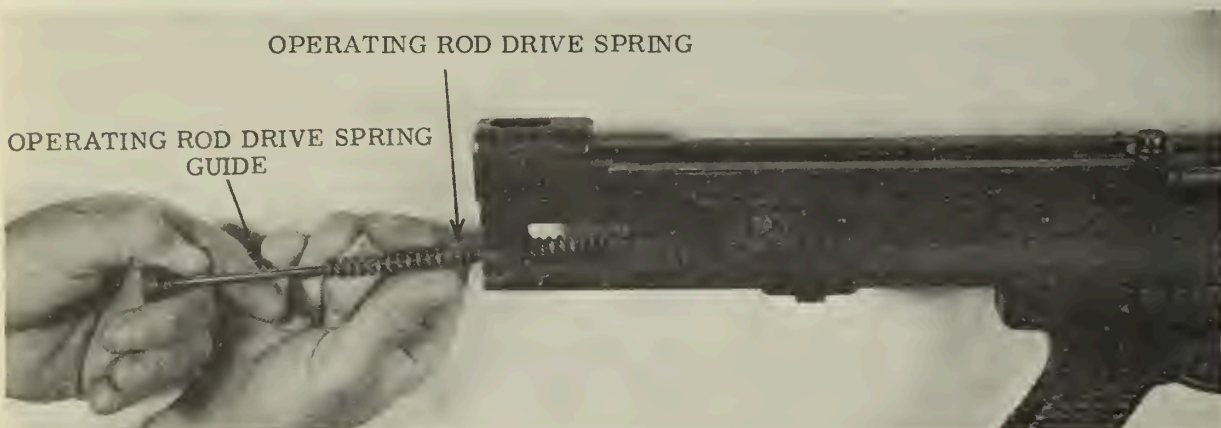

Figure 21. --Replacing the Operating Rod Drive Spring and Guide.
(4) Assemble the operating rod drive spring and guide and insert them into the recess in the rear of the operating rod. (See fig. 21.)